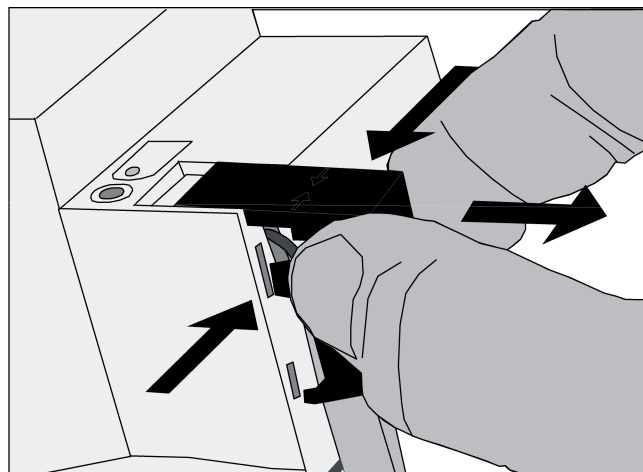

Figure 6: Removing the cover
- Press the cover to the side and pull it off (Figure 6).